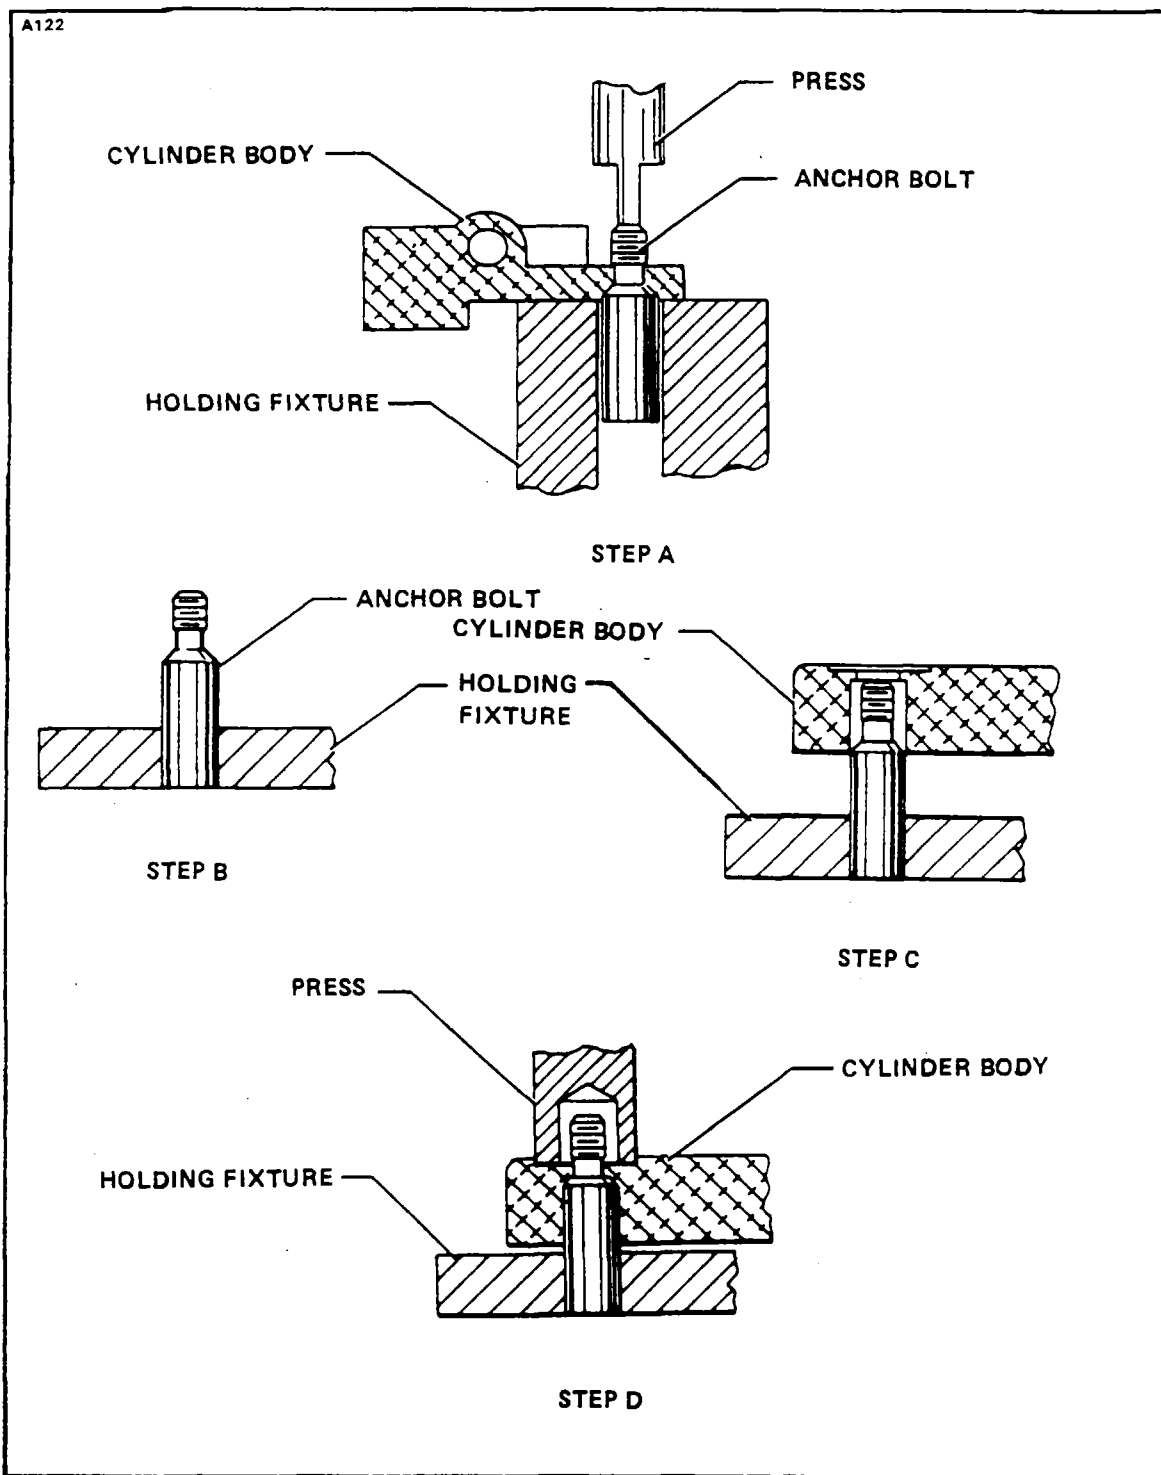

Figure 6-9a. Removal and Installation of Anchor Bolts
- 1. Position cylinder assembly on a holding fixture. (Refer to Figure 6-9a.)